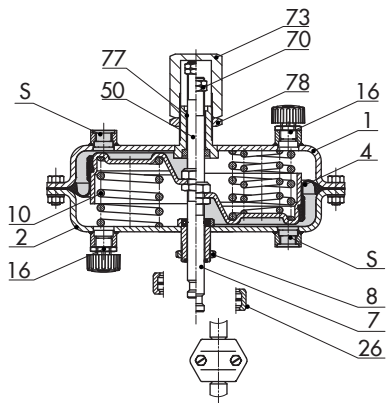

Fig. 13: Type 3271 with adjustable travel stop
- **Type 3271 · Travel stop** (Fig. 13), minimum and maximum travel mechanically adjustable in versions with 175v2 to 750v2 cm²
The adjustable **mechanical travel stop** (Fig. 13) is suitable for actuators with actuator areas of 120, 175v2, 350, 350v2, 355v2 or 750v2 cm². Using the travel stop, the actuator travel can be limited by up to 50 % in both directions (actuator stem extends or retracts) and permanently adjusted.